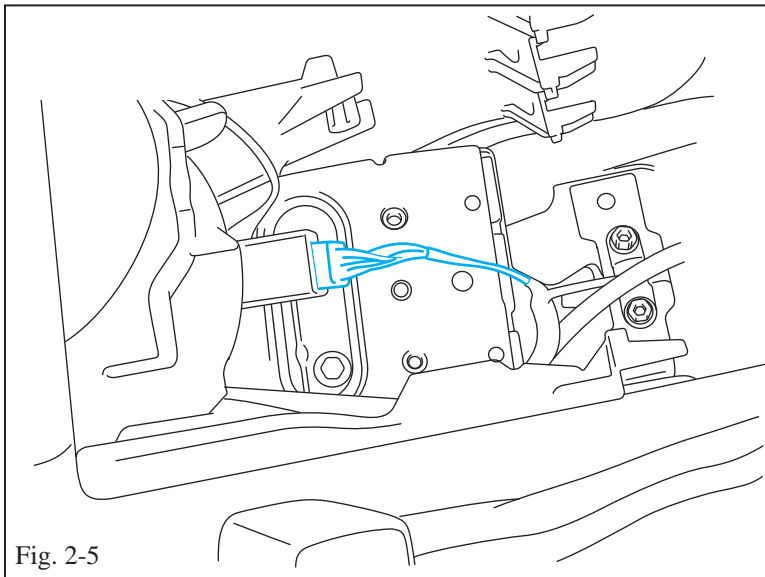

Fig. 2-5
- (g) Disconnect the center console electrical connector, and then remove the console. (Fig. 2-5)